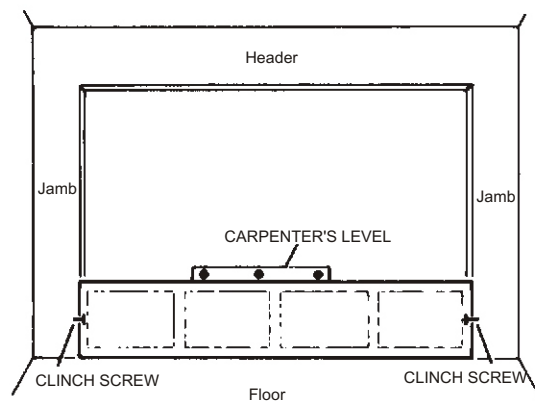

FIGURE 5-1
1. Position assembled bottom door section in the opening. Center the section in the opening, the section should line-up with the edge of the jamb on the left and right side. Level the bottom section in the doorway. Use shims if required to level the section. See Figure 5-1